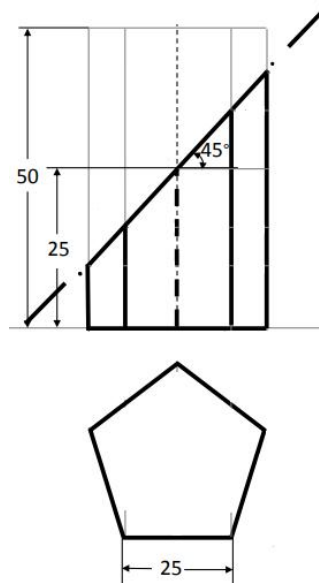

Figure 3
11. **Figure 3** below shows a pentagonal prism, with a side of base 25 mm and altitude 50 mm, rests on its base on the Horizontal Plane such that an edge of the base is parallel to Vertical plane and nearer to the observer. It is cut by a plane inclined at 45° to Horizontal Plane, and passing through the centre of the axis at a vertical height of 25 mm.